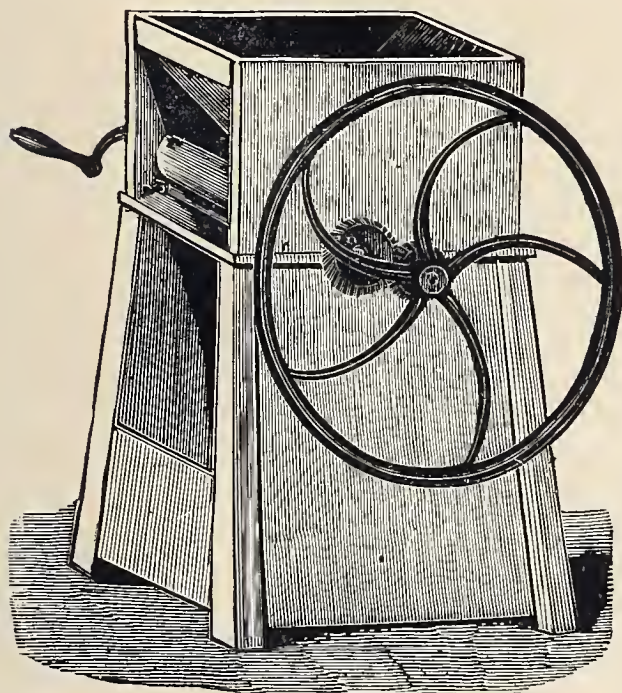

Fig. 416. — Box Sugar-Mill.
*The Box Sugar-Mill*, represented by *Fig. 416*, is used by grocers for crushing sugar as it is taken from the hogshead. The dampness of the bottom and sides is thus equalized, and the appearance of the sugar thereby improved. It is simple, and easily kept in order, and will crush from six to twelve hogsheads per day. Four sizes are made.